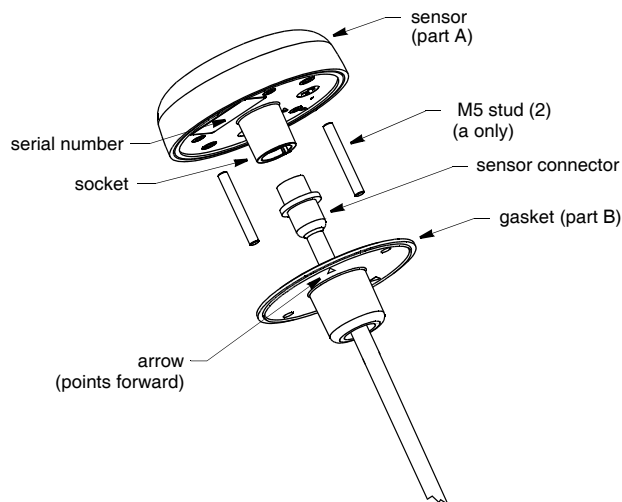

Figure 2. Preparing the sensor
1. Remove the label from over the sensor's socket (part A) (Figure 2).